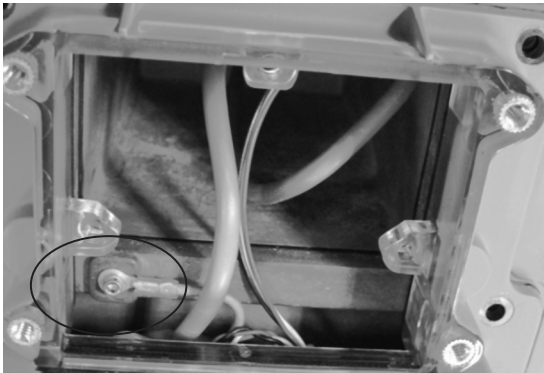

Figure 9.18 Example - Attach green ground wire
- Use a 3/32 Allen wrench to attach the (#4-40) screw to the green ground wire back onto the meter as shown in Figure 9.18 Example.